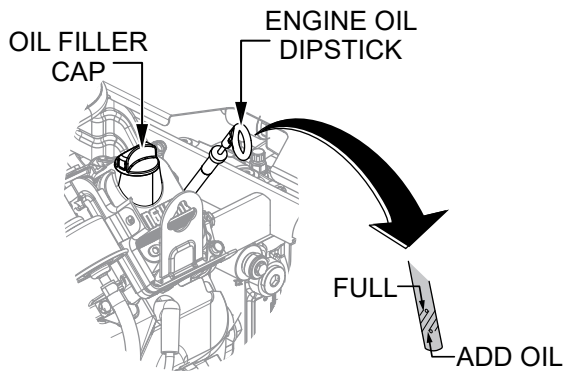

Figure 30. Engine Oil Dipstick And Filler Cap
2. Pull the **engine oil dipstick** (Figure 30) out of its holder and wipe it with a clean rag.
4. Determine if engine oil is low. Oil should be between the **upper and lower marks** (Figure 30) on the dipstick.
5. If the oil is below the lower mark on the dipstick, remove the **oil filler cap** (Figure 30) and add engine oil up to the upper mark on the dipstick. Refer to Table 3 for engine oil capacity and Table 7 for recommended oil viscosity.